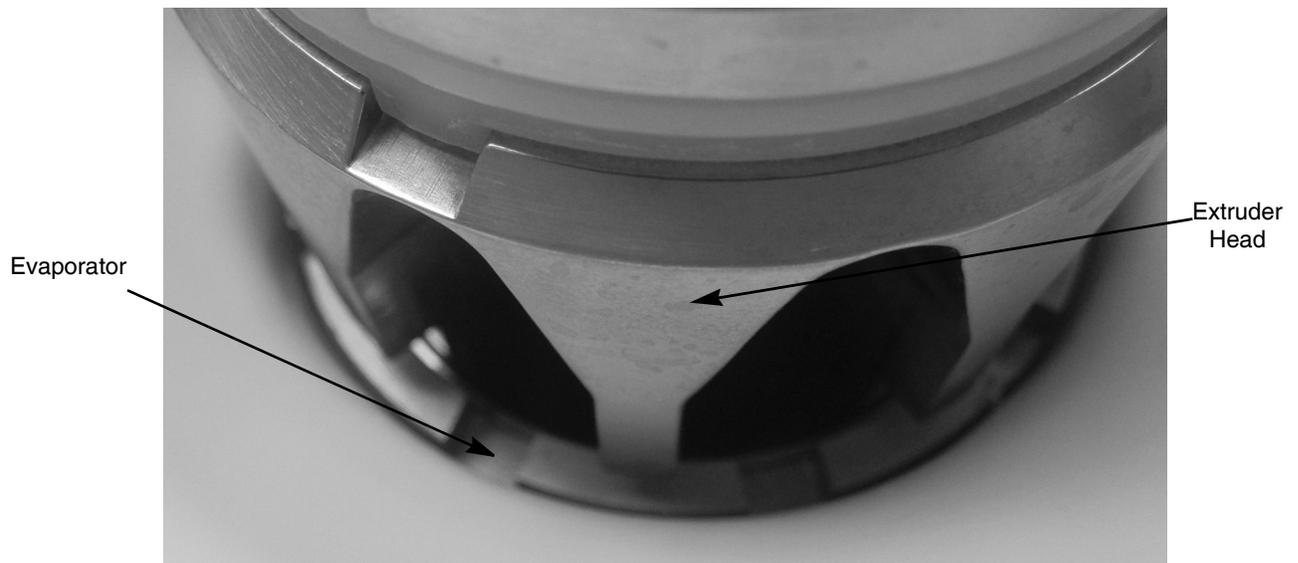

Figure 18.
2. When the auger is lowered into the evaporator, rotate the auger to engage the motor drive shaft, see Figure 18.